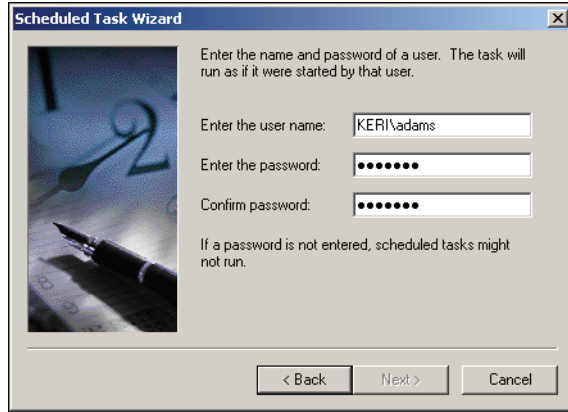

Figure 5-31: Enter Name and Password
12. Depending on the frequency selected, different windows will appear showing many different options. Select the various options for how the auto delete program should perform the deletion task. When all options have been selected, click on the  button until the User Name and Password window appears (see Figure 5-31 on page 34 of this section).